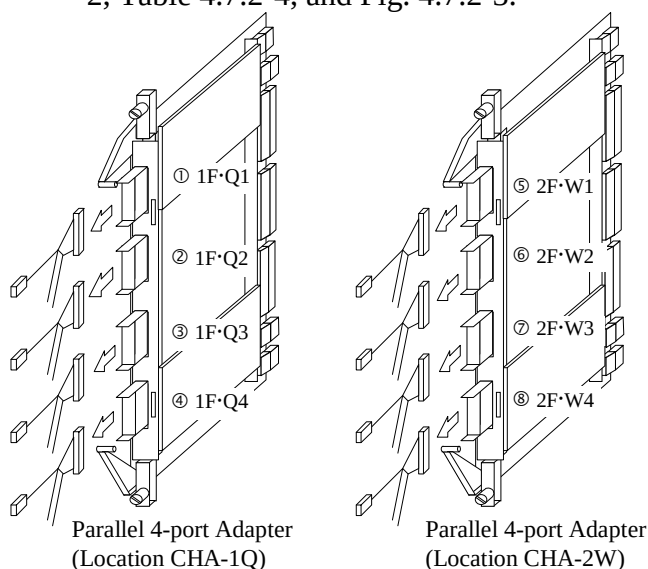

Fig. 4.7.2-3 Disconnection of CH Cables (Add.1)
- a. Disconnect the CH cables from the Sub-edge connectors on the PCB referring to Table 4.7.2-2, Table 4.7.2-4, and Fig. 4.7.2-3.